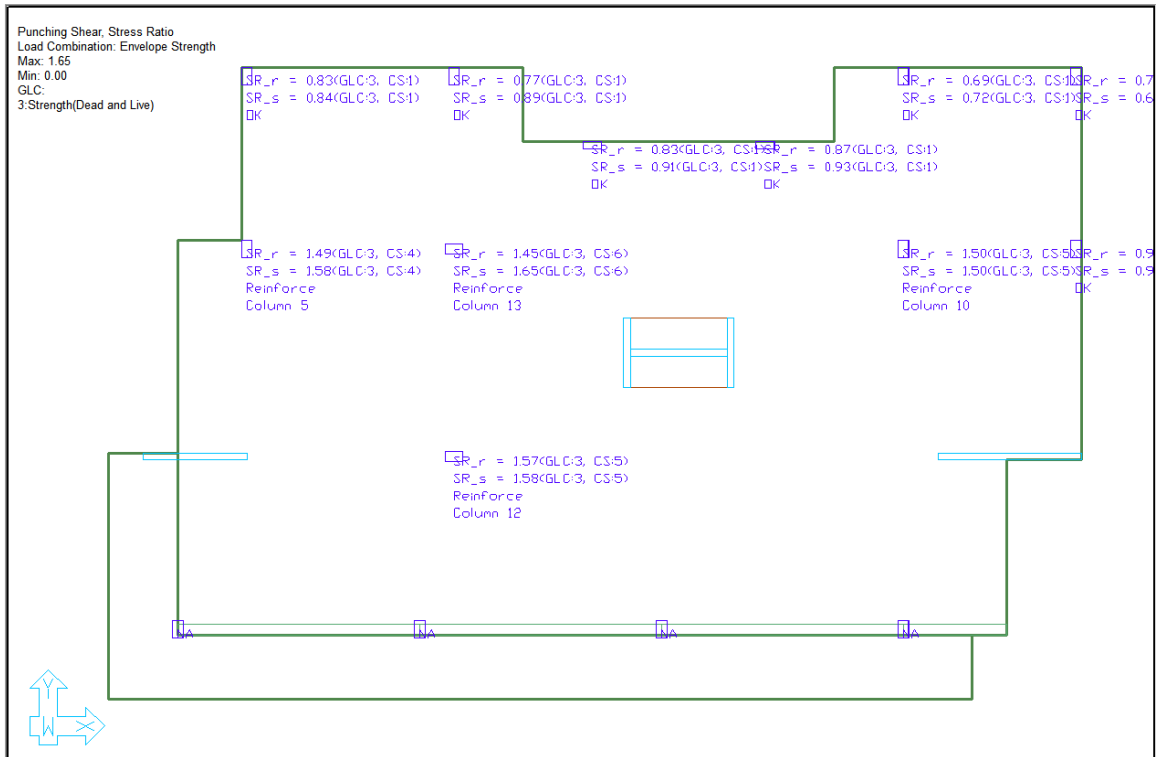

Figure 9-116
- Your screen should look as shown in **FIGURE 9-116**.